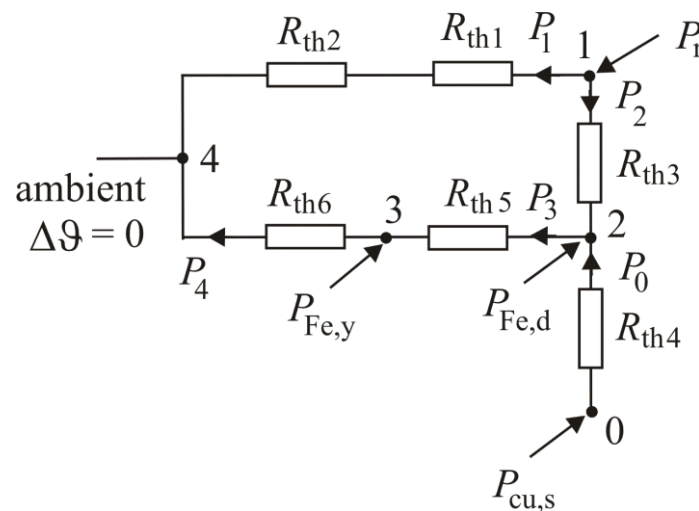

Fig. 3.4-1: Losses and heat sources plot
A totally enclosed, fan cooled, cage induction motor has the following losses and thermal resistances according to Fig. 3.4-1:
- 4) Determine the heat flow P_1, P_2, P_3, P_4 ! ¹ Give the power flow as a graph like in Fig. 3.4-1.